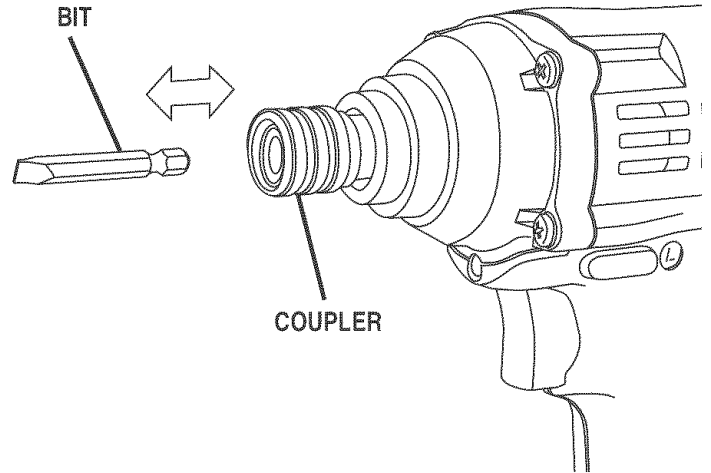

Fig. 6
- Insert bit straight into coupler as shown in figure 6.
When not in use, bits provided with the tool can be placed in the storage area located at the bottom of the tool handle as shown in figure 6.
- Pull bit straight out of coupler as shown in figure 6.